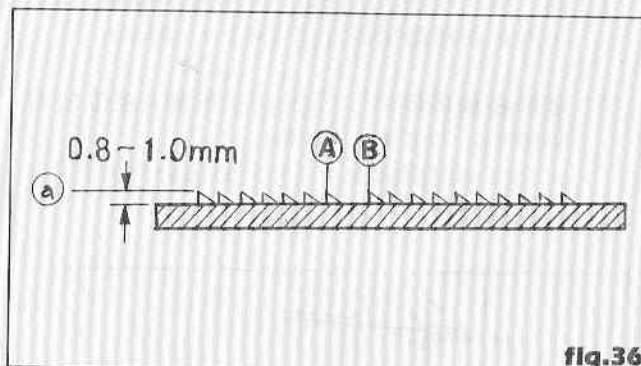

fig.36
* The height is 0.8-1.0mm when it is in the highest position. (fig 36)
* Adjust the differential feed dog so that the point (B) is at the same height as the point (A) of the main feed dog.